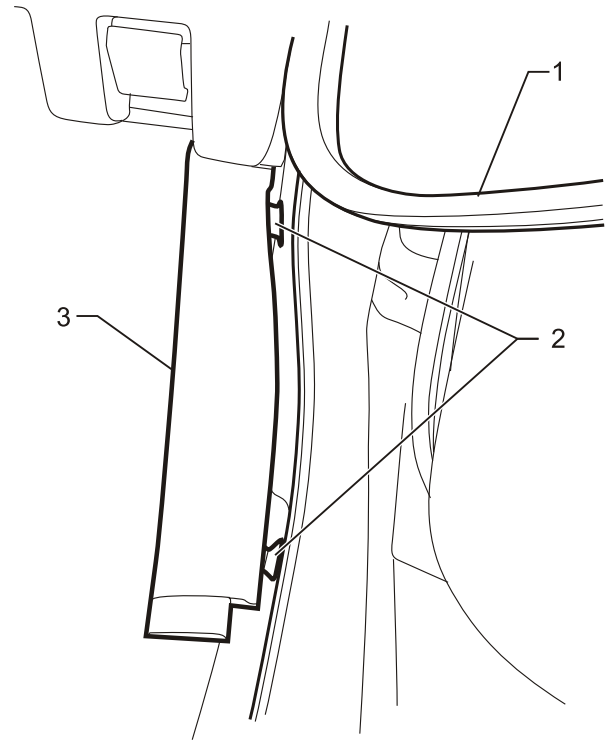

Figure 29
51. When reinstalling the kick panels (1), ensure the two tabs (2) on the kick trim (3) are captured behind the door seal trims. Refer to figure 29.